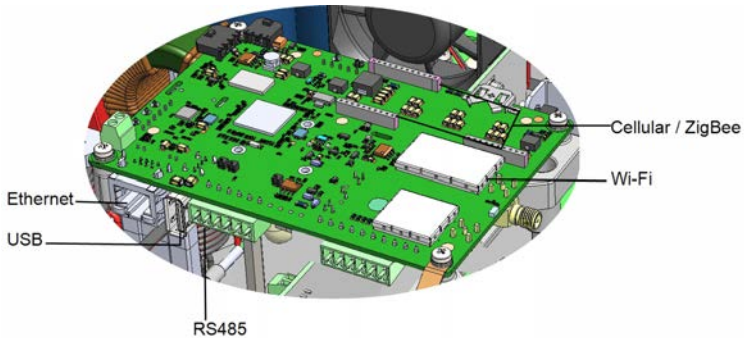

Figure 16: Communication board connectors
- e. Connect the Ethernet connector to the RJ45 port on the communication board (see *Figure 16*).